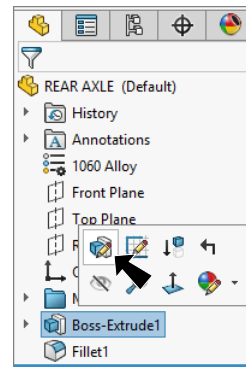

Fig. 12
- Step 1. Click **Boss-Extrude1** in the Feature Manager and click **Edit Feature** in the content toolbar, Fig. 12.